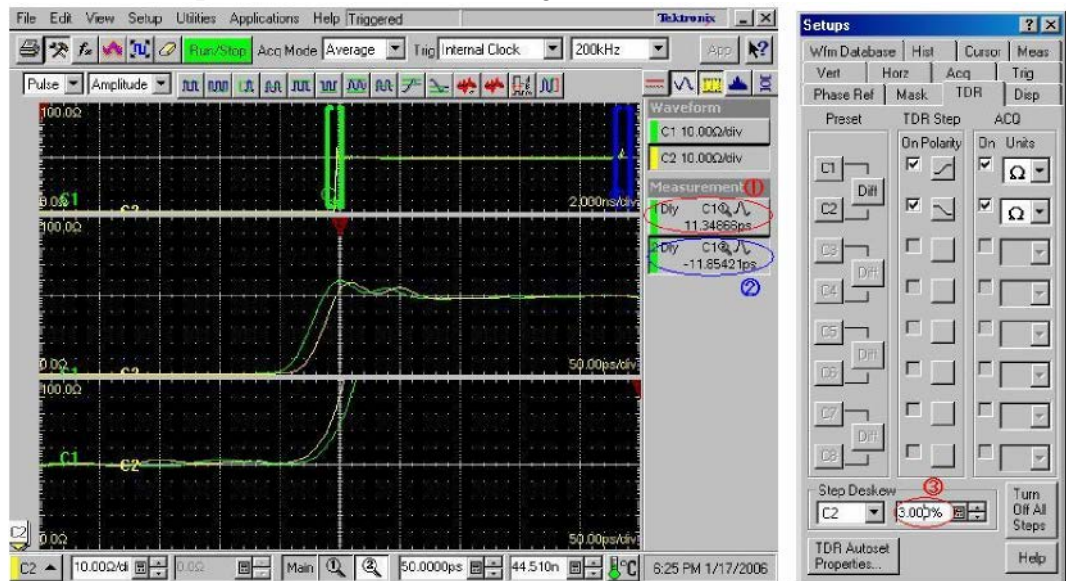
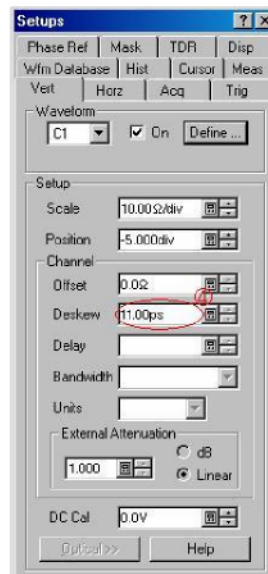

Figure 4: Adjusting the step deskew
Figure 5: Changing the Deskew value
- b. Adjust the readings of ① and ② in Figure 4 are about the same value by changing the **Step Deskew** value (see ③ in Figure 4).
- b. Adjust the deskew so that the reading of ② in Figure 4 on page 6 has the minimum value by changing the Deskew value (see ④ in Figure 5).